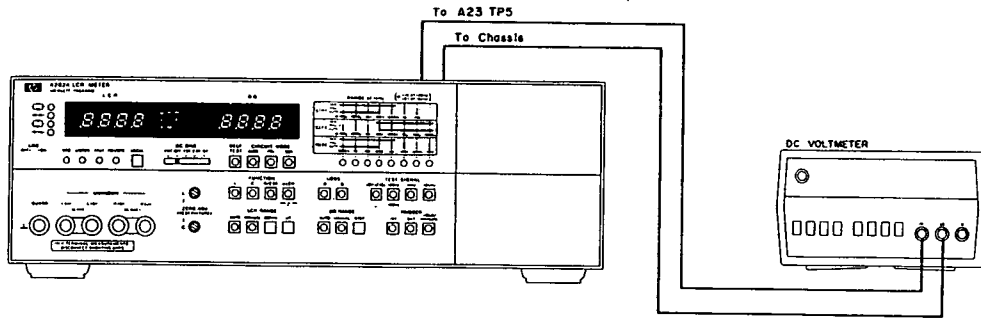

Figure 5-2. Nanoprocessor Operating Power Voltage Adjustment Location.
- a. Connect DC voltmeter plus input to test point A23TP5 and minus input to 4262A chassis with dual banana plug to alligator clip cable. See Figure 5-2.